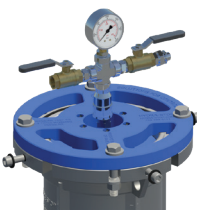

Figure 4
2.1.6 Connect 1/2" quick-connect coupler on Pressure Test Tree to 1/2" quick-connect nipple on Pressure Test Plug (see Figure 4).